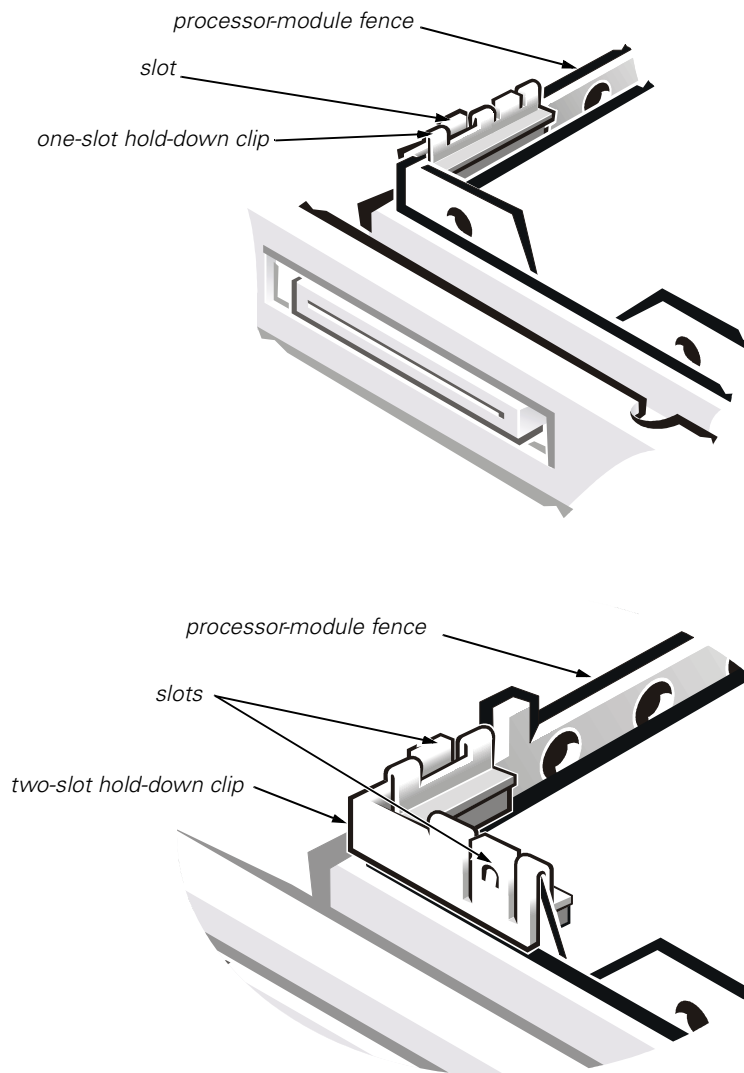

Figure 27. One- and Two-Slot Hold-Down Clips
- a. Insert a small flat-blade screwdriver into one of the slots at the top of the clip (see Figure 27).
- c. If your computer has a two-slot hold-down clip (see Figure 27), repeat substeps a and b for the second slot .